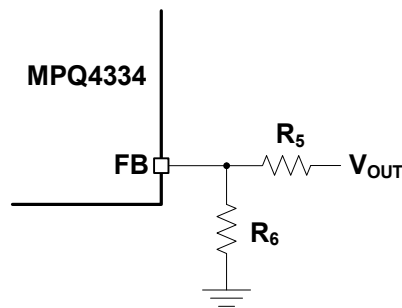

Figure 1: Feedback Divider Network with Adjustable Output
7. To use the enable (EN) function, apply a digital input to the EN pin. Pull EN above 1.02V to turn the regulator on; pull EN below 0.85V to turn it off. If the enable function is not used, EN can be connected directly to V_{IN} .
9. Set the output voltage (V_{OUT}) using the external resistor divider (see Figure 1).